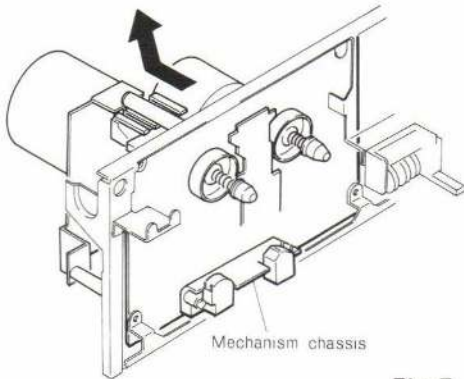

Fig. 7
- 2) Slide the mechanism in the direction of the arrow out of the frame. (See Figure 7)